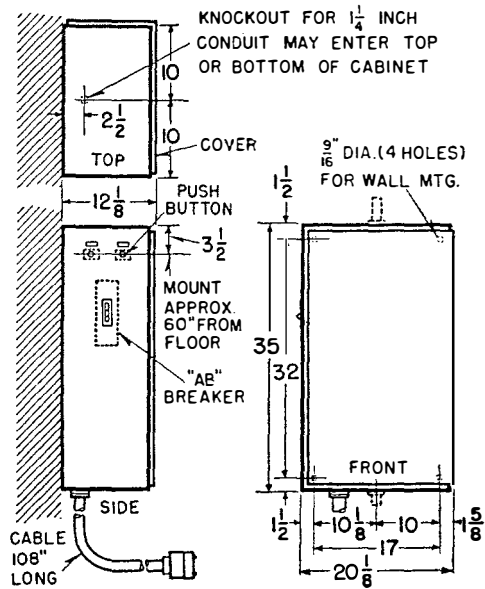

Fig. 132.
- 1—Test cabinet, complete with secondary contacts, control relay and pushbuttons for electrically-operated breakers (see Fig. 132).